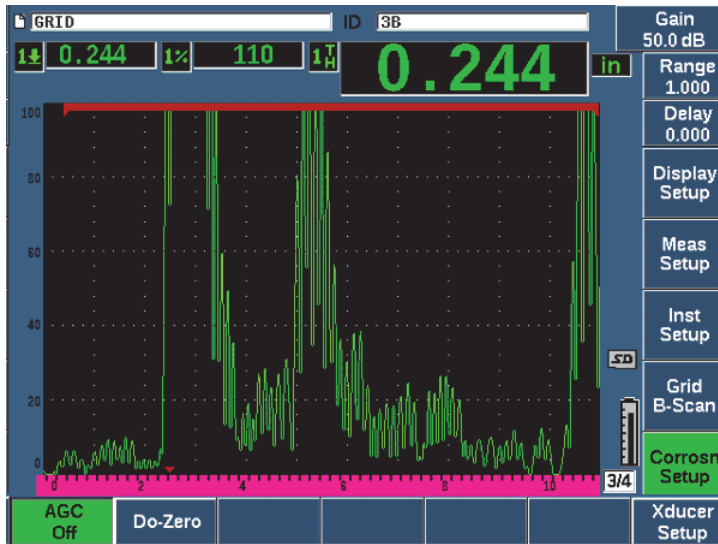

Figure 11-40 Corrosion Module AGC set to Off
- Use the knob or arrow keys to set **AGC** to **Off** (see Figure 11-40 on page 294).
- Press dB and press a parameter key (P1–P7) to set a gain range, then use the knob or arrow keys to adjust the gain value (see Figure 11-40 on page 294).